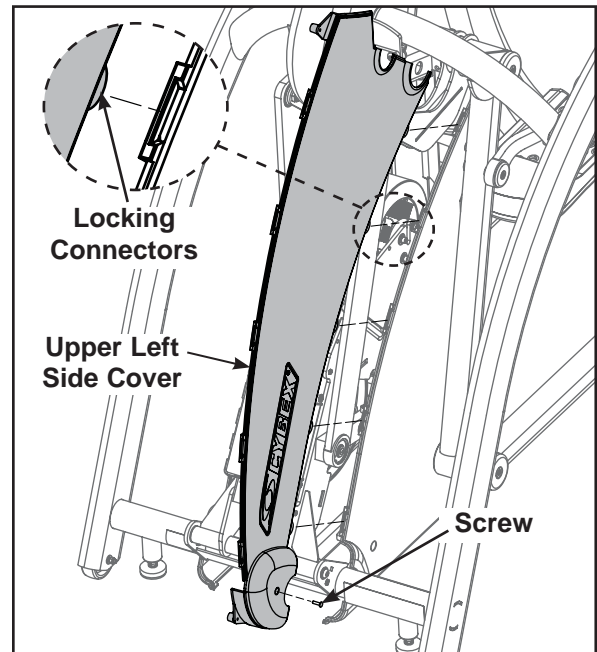

Figure 6
- A. Using a Phillips screwdriver, remove the screw securing each of the upper side covers. See Figure 6.
- A. Place the upper side covers in position. See Figure 6.